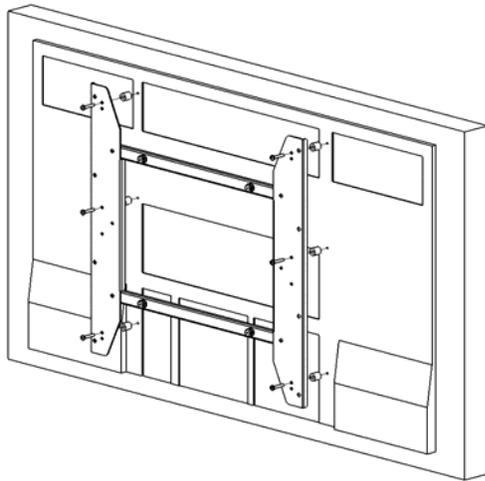
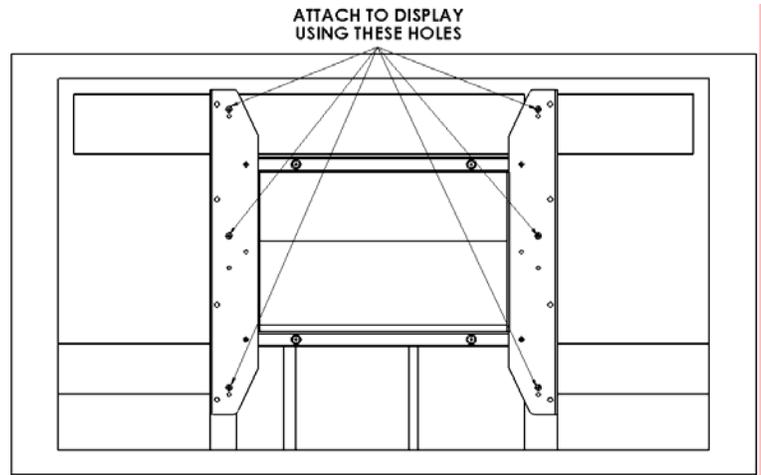

Figure 6
Figure 7
- Place nylon spacers over the mounting holes on back of screen. Attach mounting brackets to display using the M6 screws (See Figure 6 & Figure 7).